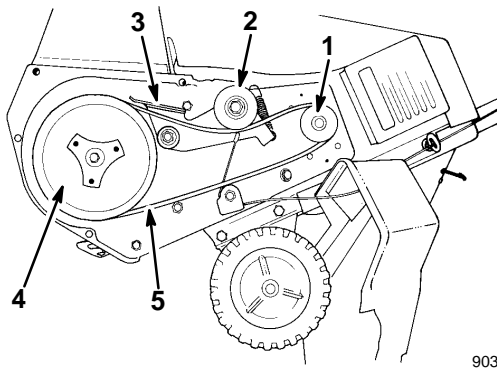

Figure 13
6. Slip the belt off the idler pulley (Fig. 13).
9. Move the idler pulley and slide the belt between the rotor pulley and the brake arm (Fig. 13).
10. Release the idler pulley, and slip the belt under the idler pulley (Fig. 13)